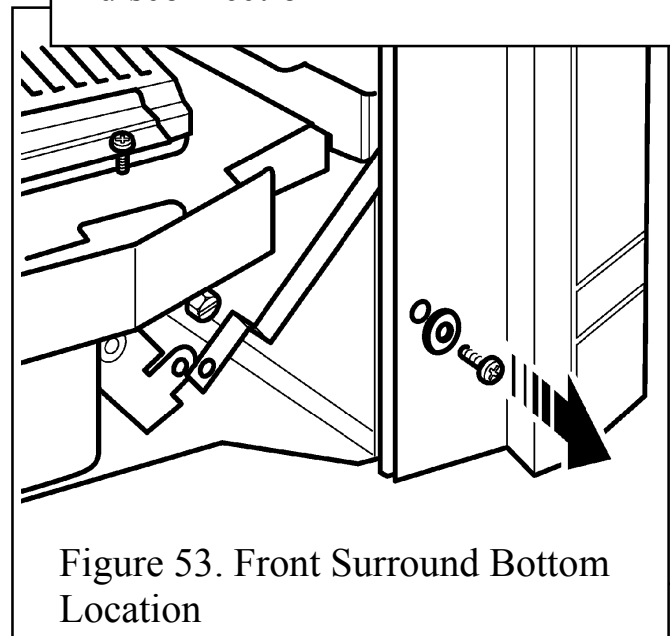

Figure 53. Front Surround Bottom Location
4. Remove the two screws and washers securing the bottom of the front surround to the sides of the hotbox. See figure 53.